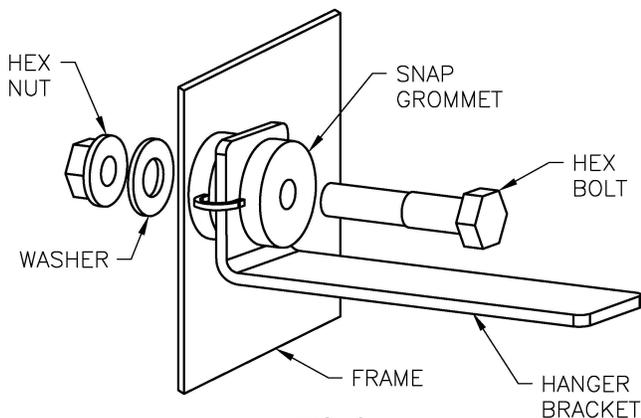

FIG. 3
Step 2: Begin installing the new system by fitting the new mufflers, tailpipes and tru-x assembly into place for a mock up fitment, as shown to the left. This will help to determine where to drill the frame or floorboards for the muffler and tailpipe mounting brackets as shown in Fig. 1 & 3. If the OEM mounting points will not work, fasteners are supplied to be used in place of the hex head bolts if required. Use a 1/2" drill bit for the bolt/nut combo, or use a 5/16" drill bit for the tri-lobular sheet metal screws. You should now also be able to determine where to trim and or modify the inlet pipes if needed. With the system loosely installed, adjust the components for at least 1/2" clearance, including areas with moving parts (axle, driveshaft, etc.). Once a proper fit for the complete system has been achieved using the supplied clamps, the inlet pipes can be welded to the manifold or header flanges. Once the tailpipe brackets are bolted in place as shown in Fig. 3, they can be bent and welded to the tailpipe.